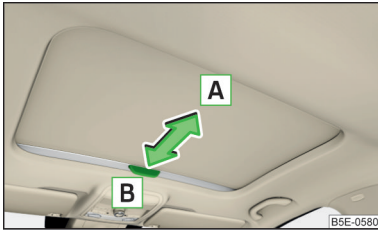

Fig. 65
- › To **open**, pull the handle in the direction of arrow **A** » Fig. 65.